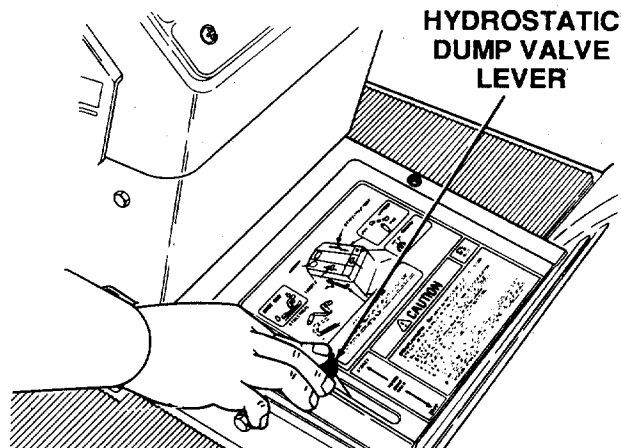

Figure 9
1. To engage the dump valve (making the tractor free-wheeling), push the lever forward and hold in this position. (Refer to Figure 9.)